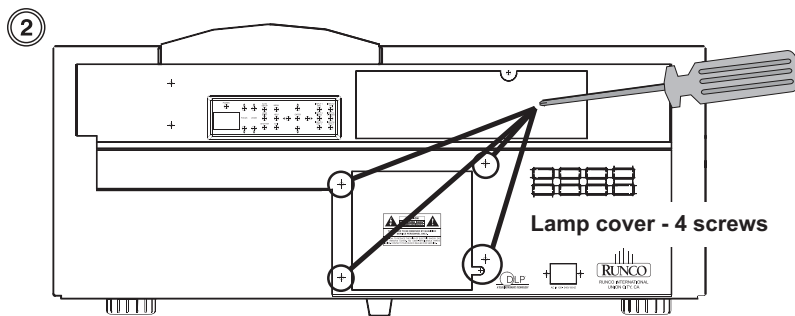

Figure 5-1. Removing the Lamp Door
2. Loosen the four rear Lamp Cover screws (see Figure 5-1) and remove the cover.